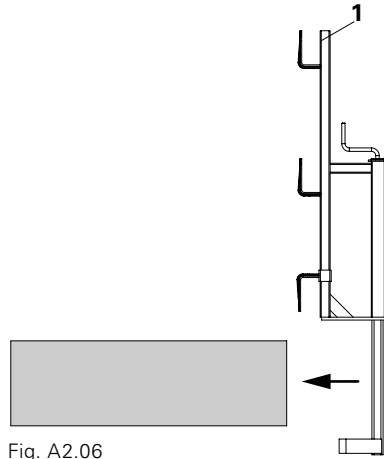

Fig. A2.06
2. Push the Guardrail Holder-2 (1) across the structure. (Fig. A2.06)